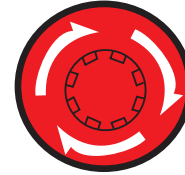

Figure 20. Emergency Stop Switch
1. To stop the engine in the event of an emergency, press the **Emergency Stop switch** (Figure 20).